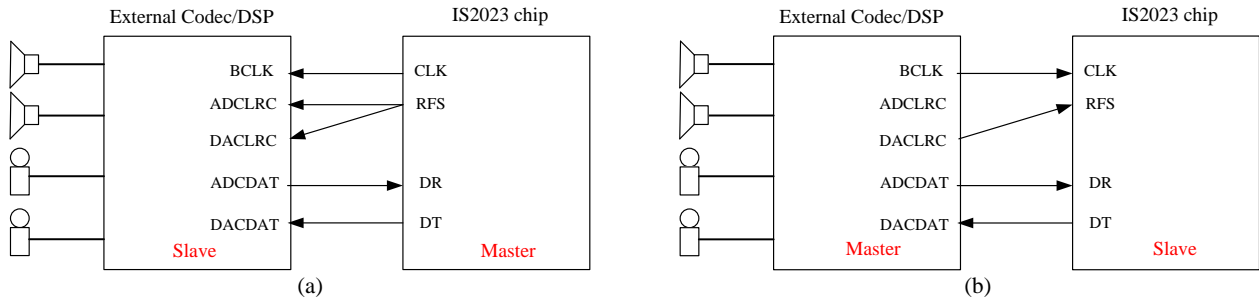

Figure 18: I2S hardware configurations for (a) Master, and (b) Slave modes with external ADC.
- **Master:** IS2023 chip serves as a master to provide clock and frame sync signals for the master/slave data synchronizations as shown in Figure 18(a).
- **Slave:** IS2023 chip serves as a slave to receive clock and frame sync signals from external codec or DSP devices illustrated in Figure 18(b).